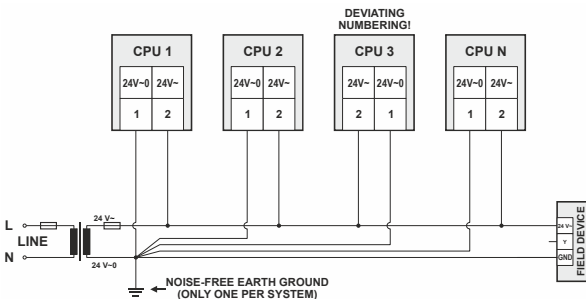

Fig. 48. Connecting and earthing multiple CPUs
- ▶ Connect earth ground to the respective terminal of the CPU, see Fig. 48.